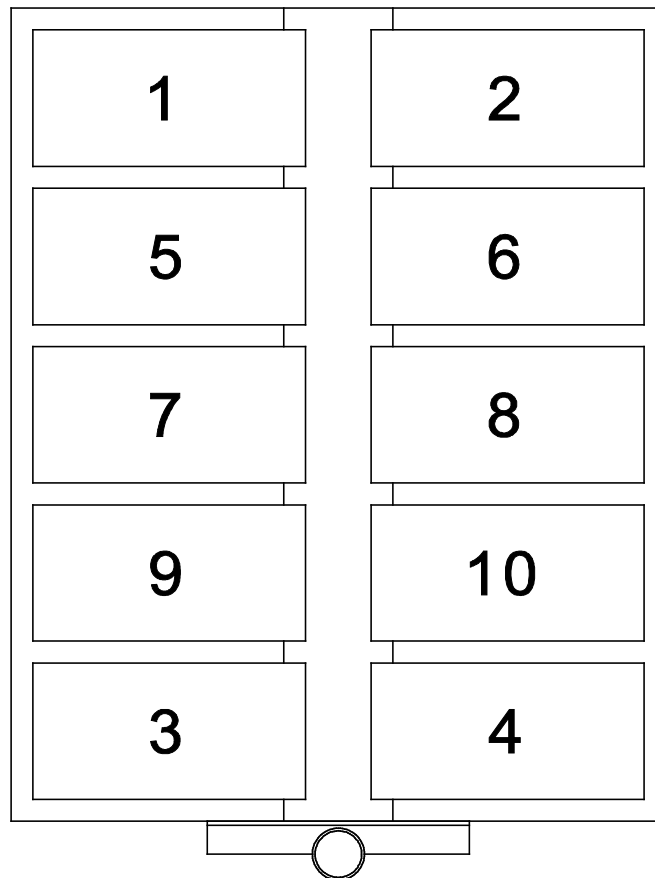

**FIGURE 3.**
- STEP 2:** Place the mount base on the roof and orient the mast end toward the satellite. See figure 3.